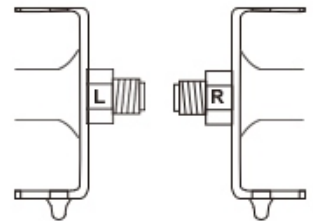

fig. 11 Attaching pedals
Step 4 Attaching Pedals(refer to fig. 11) :